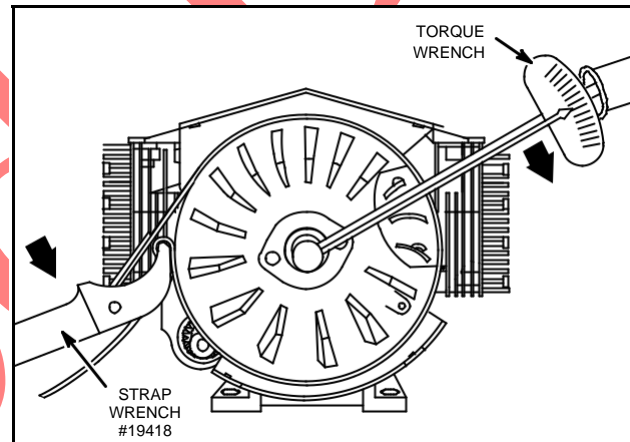

Fig. 28 – Torque Flywheel Nut – Pre Twin II
3. Torque flywheel nut or rewind clutch to 150 ft. lbs. (203 Nm), Fig. 28.